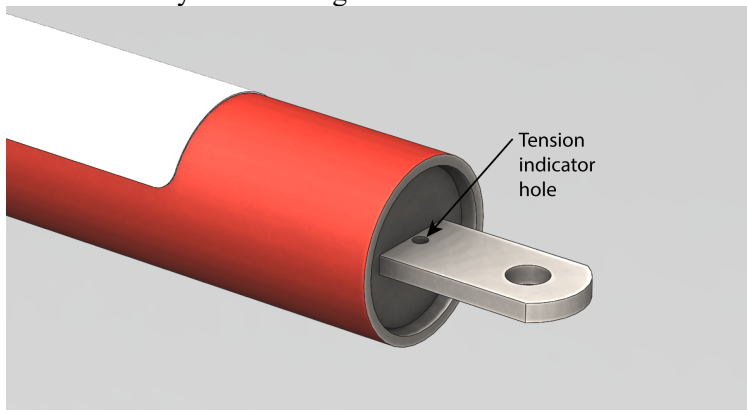

Figure 2
5. Tension lifeline using turnbuckle until tension indicator hole in energy absorber plunger is entirely visible in figure 2.